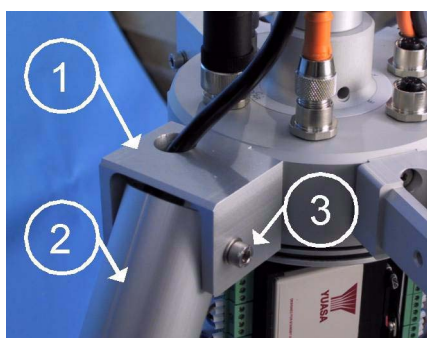

Figure 50 Tripod's Leg Attachment
3. Open the bolt (number 3 in Figure 50 on page 67) of the leg fastener (1) to release the leg (2). Fit the cable inside the leg and guide it through the hole in the leg fastener. Put the leg back into the leg fastener and tighten the bolt (3). Attach the cable to the **DC Power Input** connector.